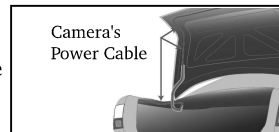

Fig. 7
9. Once you have located the reverse light circuit you will have to route the camera's power cable to that location. You must securely fasten the power cable to prevent it from being caught on any vehicle component such as the trunk hinge (Fig. 7). Never route the cable on the outside of the vehicle.